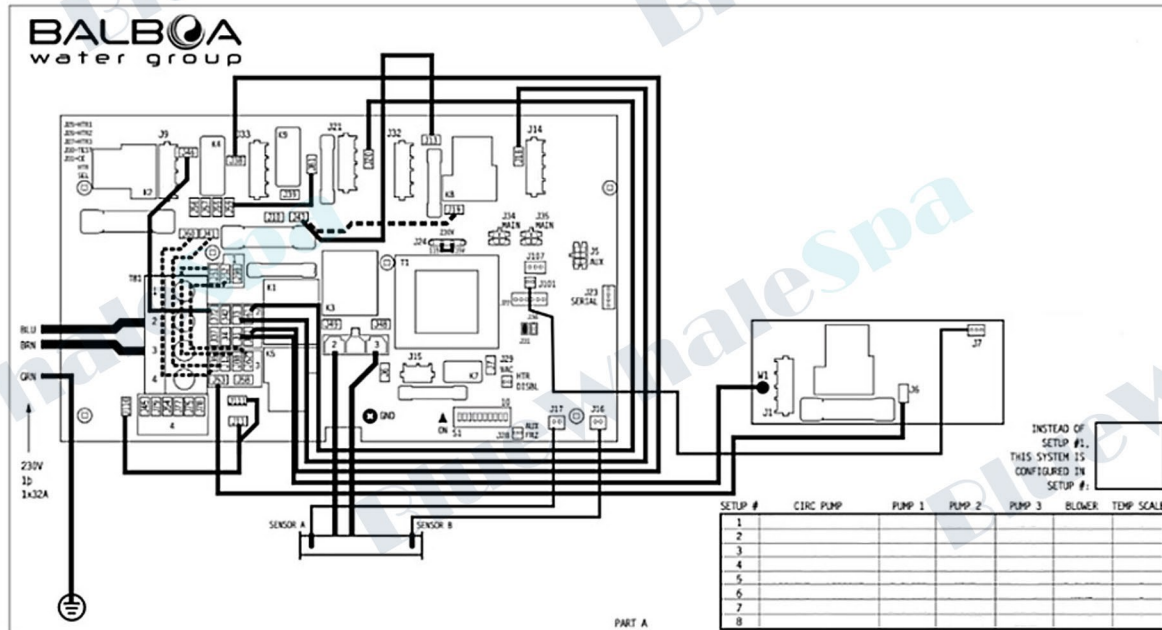

Fig.2a
- 4) The wiring of your hot tub cable to the control box will differ depending on the control box instructions. You can find them on the inside of the control box lid. Please follow these instructions and in case of any questions call for assistance. The examples of Wiring Diagrams are available on the next pages (Fig.2a, 2b & 2c).